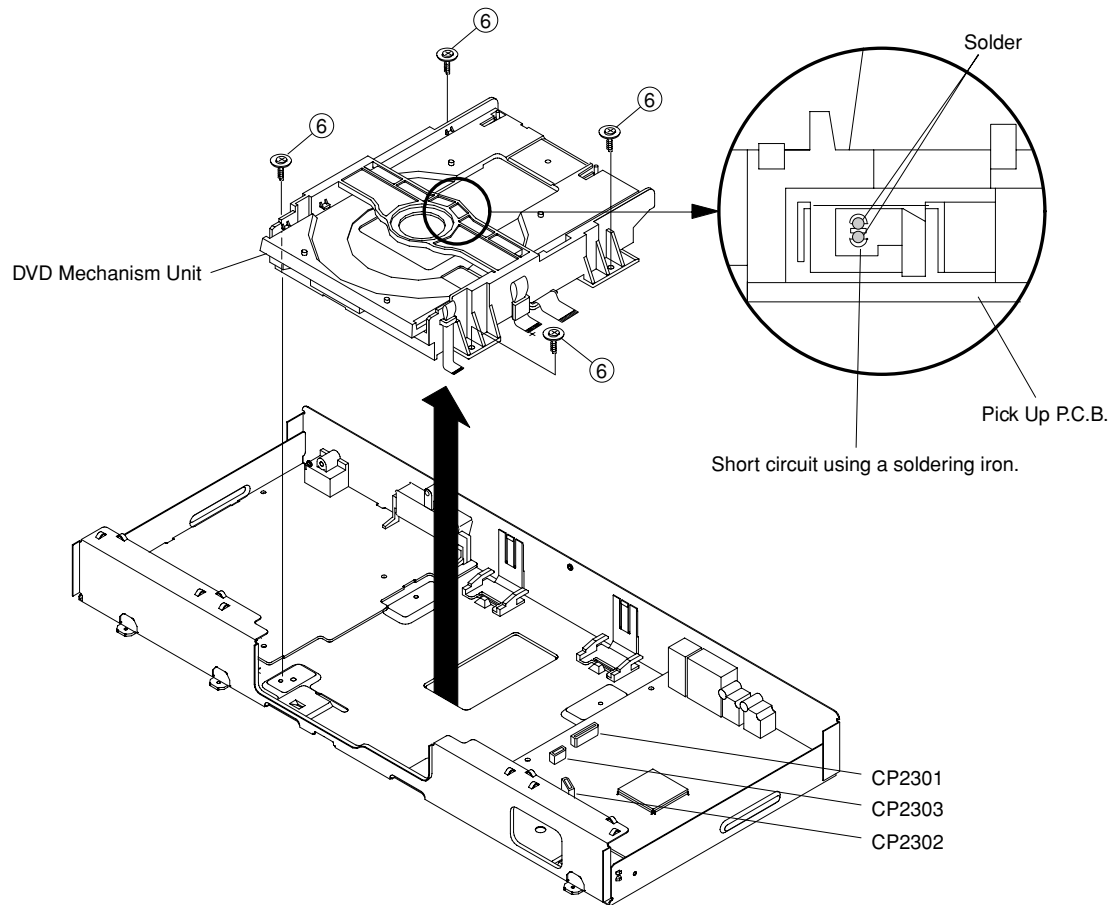

Fig. 3
4. Removal of DVD Mechanism Unit. (Fig. 3)
- a. Short circuit the position shown in Fig. 3 using a soldering iron. If you remove the DVD Mechanism Unit with no soldering, the Laser may be damaged.
- b. Remove 4 screws (⑥).